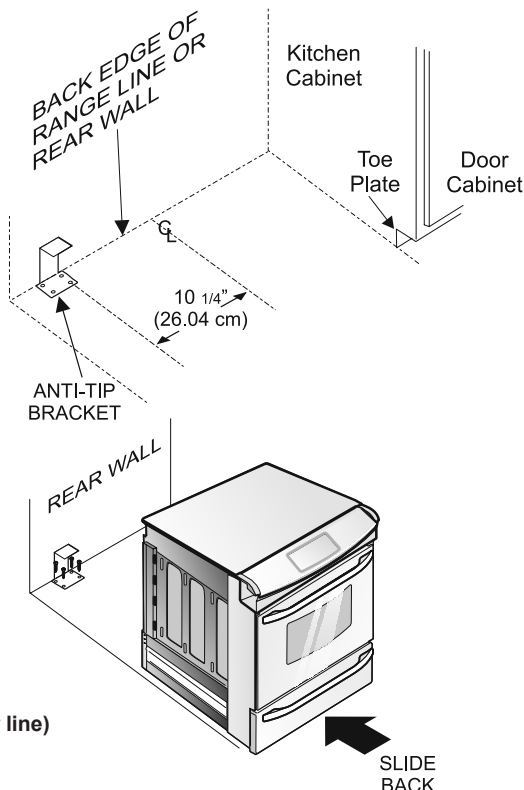

Figure 11
1. Draw a center line (CL) on the floor where the range should be installed. Also draw a line on the floor at the range back position if there is no wall.
2. Unfold paper template and place it flat on the floor with the right rear corner positioned exactly on the intersection of the center and back lines you just drew before. (Use the diagram below to locate brackets if template is not available. (Figure 11))